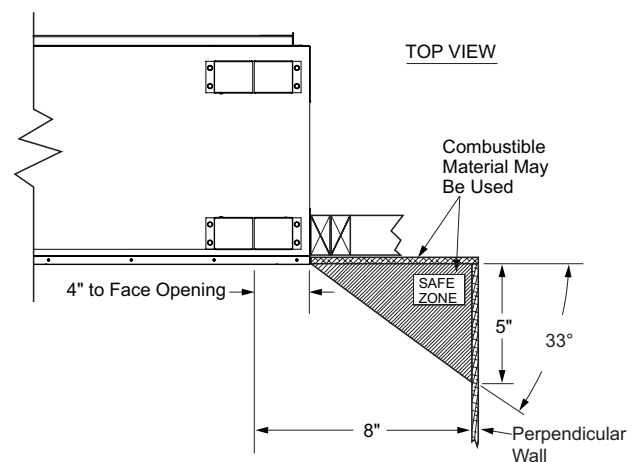

Figure 7 - Clearances for Combustible Mantels
- where curtains, furniture, clothing or other flammable objects are less than 36" from the front and 42" top of fireplace. For side clearances see Figure 7, page 8
If you are using a separate combustible mantel piece, refer to Figure 7, page 8 for proper installation height. You can install noncombustible mantels at any height above the fireplace.